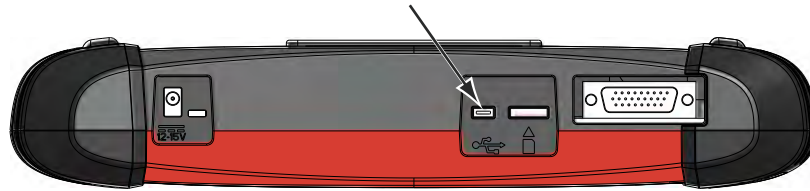

Figure 2-6 Sample SOLUS Ultra USB port location
- SOLUS Ultra—mini A USB port on top of the unit (Figure 2-6).